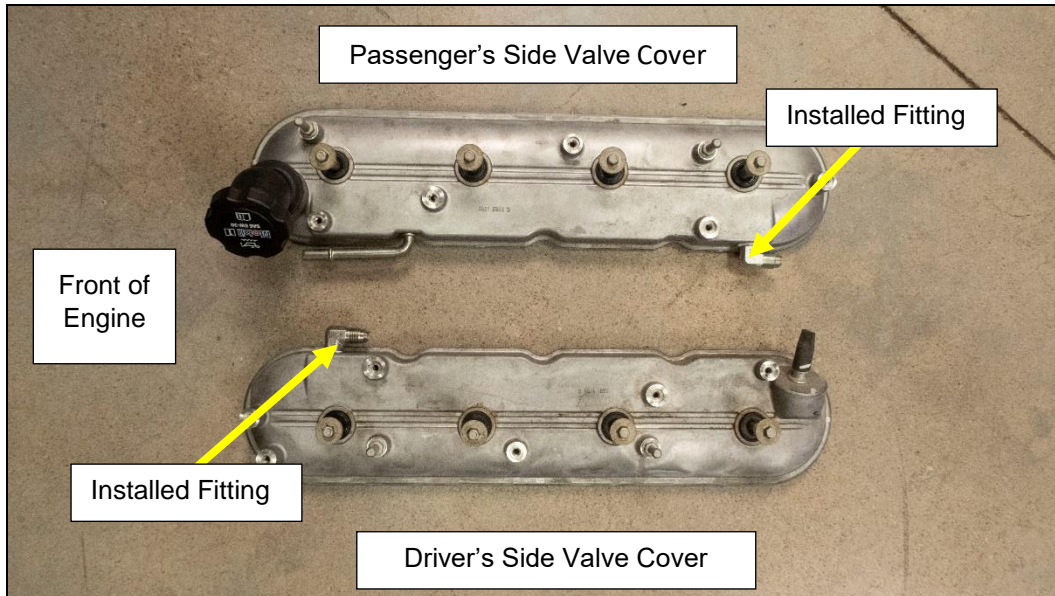

Figure 6
The valve covers will be modified to accept the oil drain back fittings and internal baffle modifications as shown in **Figures 6 & 7**. Note the location and orientation of the installed drain back fitting when installed. The baffle modifications will be at the same location inside the valve cover for each fitting installed.
6. Apply the sealing tape provided on to the threads of the -6 x 1/4" NPT 90 degree fitting. Install the fitting into each valve cover and tighten approximately 1/2 turn past hand tight (**Figure 11**). Align the fitting to face the rear of the engine as seen in **Figure 6** on page 18.